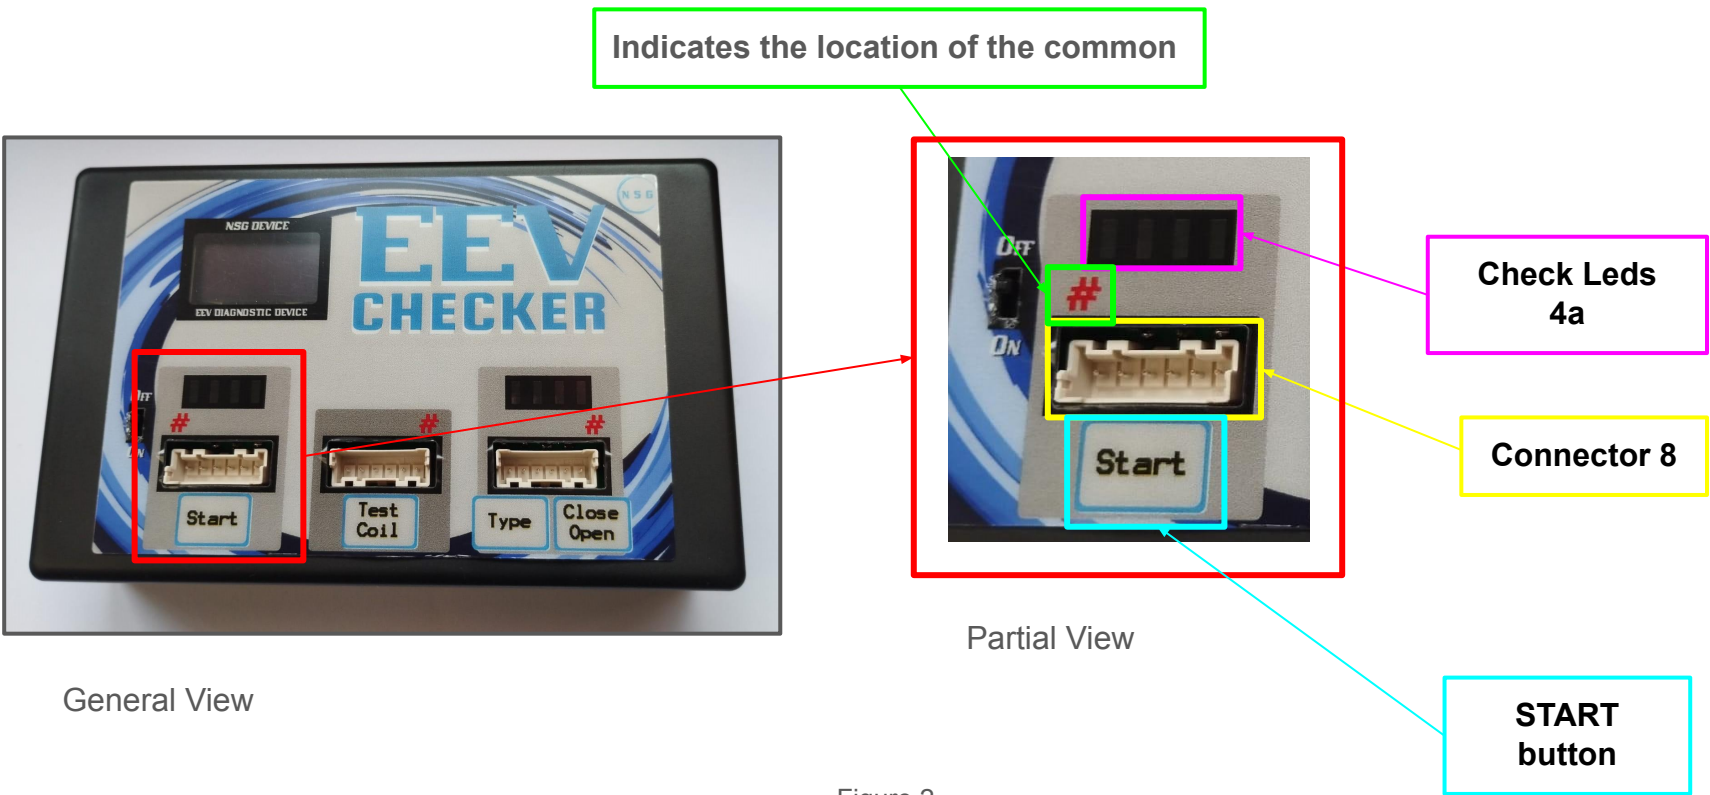

Figure 2
- If the board connector is type JST B6B-XH-A, wire **Aux_1.1** or **Aux_2.1** must be connected between the corresponding output of the electronics and connector 8 (figure 2).
- When the connector on the board is of the JST B6B-XASK-1 type , wire **Aux_1.1** and cable **Aux_1.2** will be connected between the corresponding output of the electronics and connector 8 (figure 2).